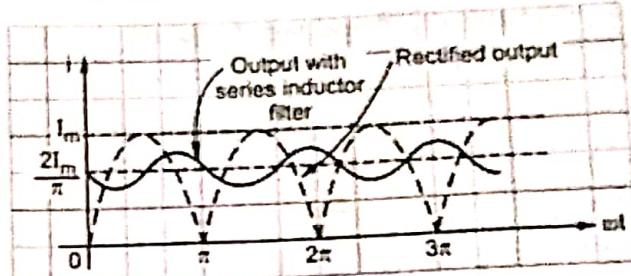

Fig. Q.29.2 Waveforms of series inductor filter
• The Fig. Q.29.2 shows the waveforms with series inductor filter.